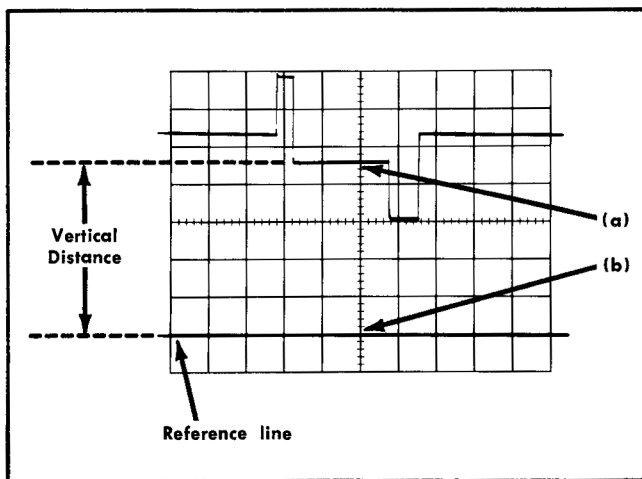

Fig. 2-2. Measuring instantaneous dc voltage with respect to a reference.
9. Measure the distance in divisions between the ground reference line established in step 6 and the point on the waveform to be measured. For example, in Fig. 2-2 the measurement is made between points (a) and (b).
As an example of this method of measurement, assume that the vertical distance is 4.6 divisions (see Fig. 2-2), INV (CH 1) NORM switch set to INV, using a 10× probe and a VOLTS/DIV setting of 2.